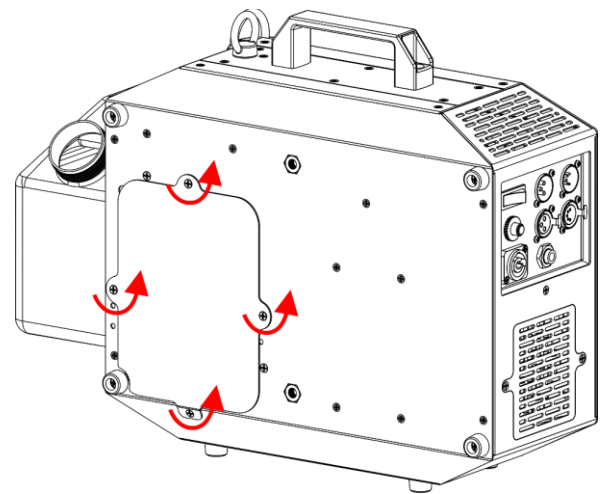

Fig. 13
- 08) Unscrew the 4 screws of the metal tank plate on the backside of the device, as shown in Fig. 13.